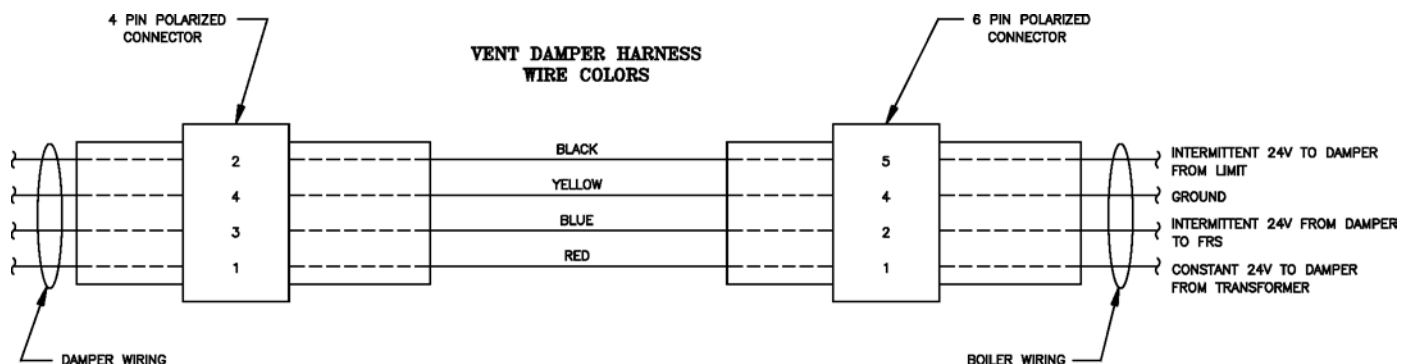

Figure 11: Vent Damper Schematic Wiring Diagram
G. Vent Damper Sequence of Operation. See Figure 11.